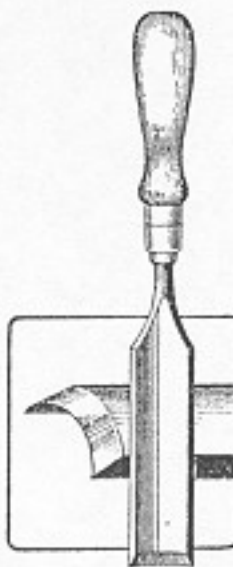

Fig. 144. Outside- and inside-bevel gouges.
53. Cutting with a Gouge. A gouge is simply a chisel whose blade has been bent lengthwise. Gouges for ordinary work are of two kinds, those having the bevel on the inside, called "inside-bevel gouges," and those having the bevel on the outside, called "outside-bevel gouges." According to the amount of curvature given the blade, gouges are classified as flat-sweep, medium-sweep, and regular-sweep gouges (Fig. 144). Gouges, like chisels, are made in widths from 1/8 to 2 in. They are either of the socket or the tang type.